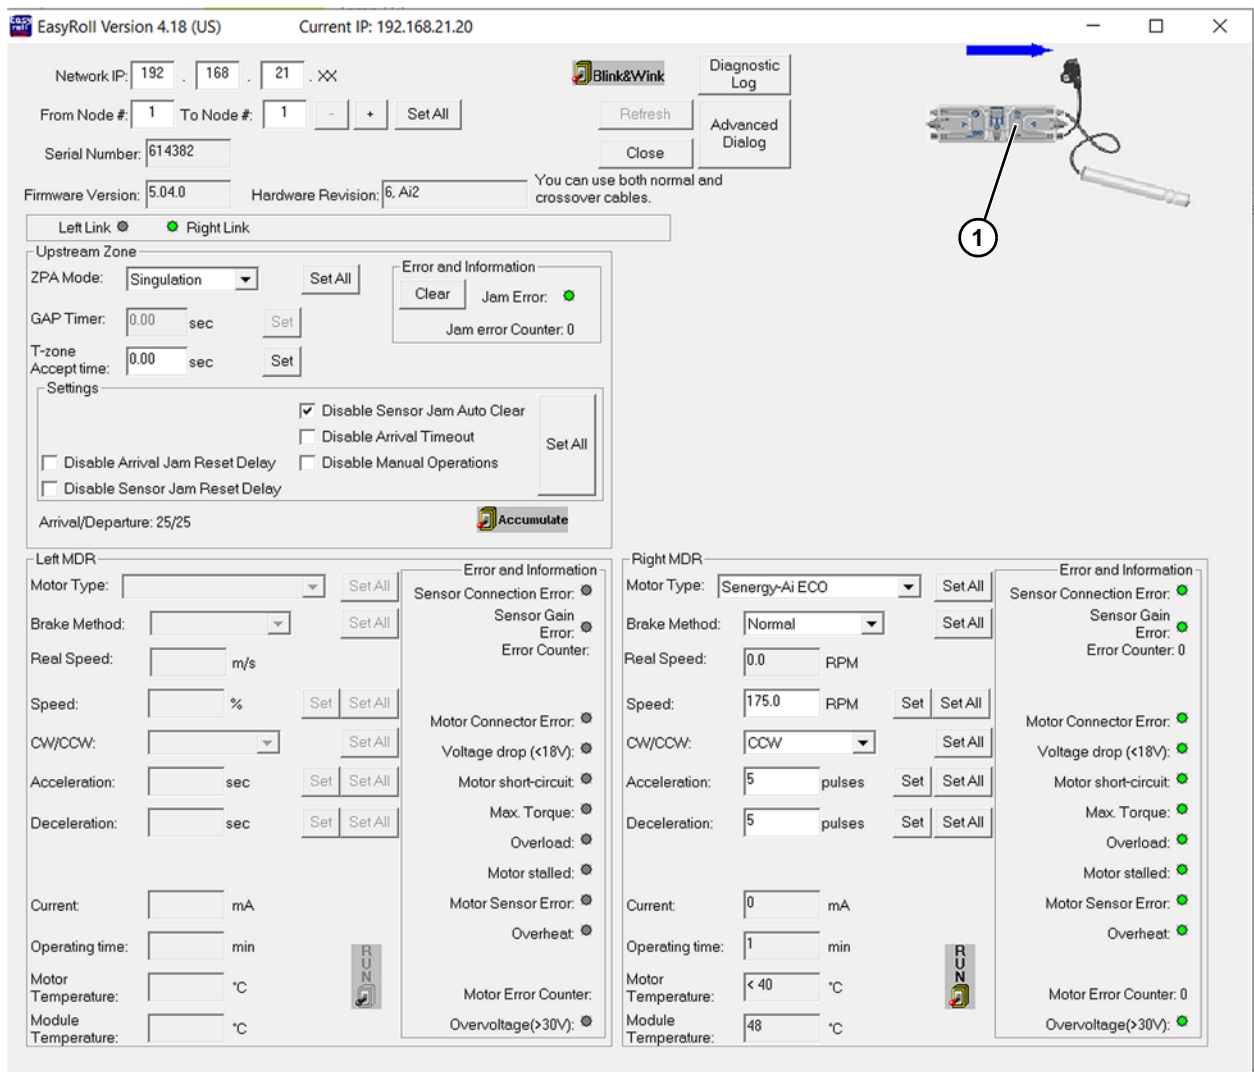

Figure 23
Image shown when system recognizes controller (**Figure 23, item 1**).